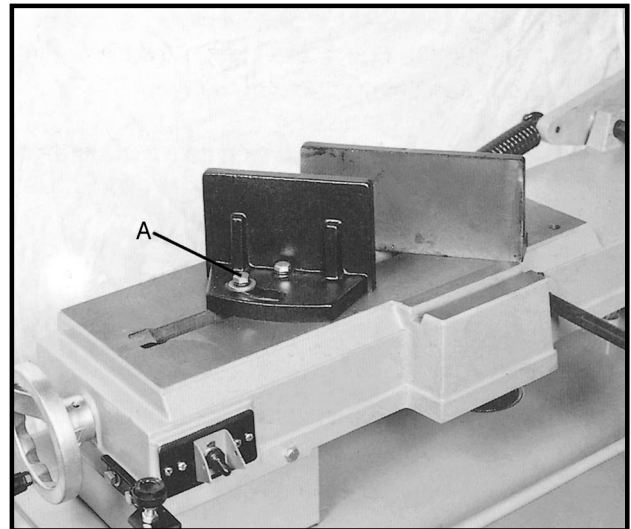

Fig. 6
4. Adjust movable vise parallel to fixed vise by loosening bolt (A, Fig. 6 ), adjusting to parallel, and tightening bolt.